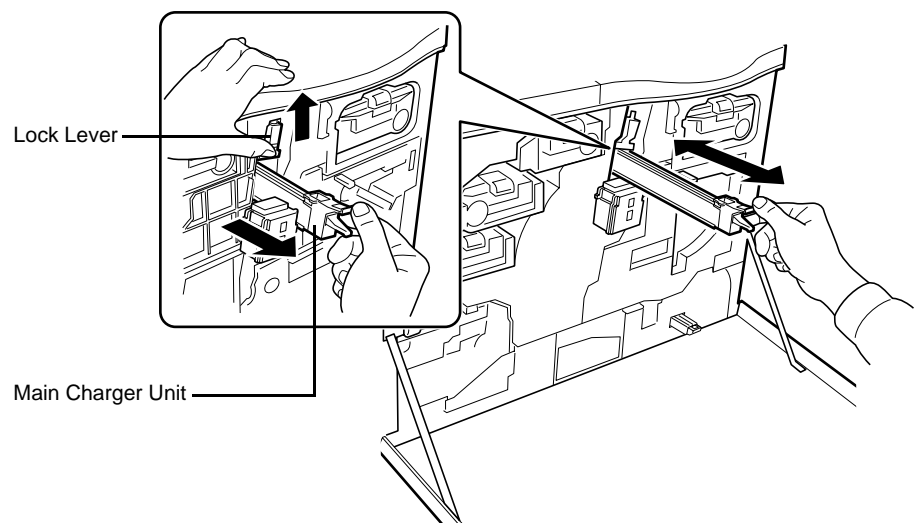

Figure 5-19
- 5 While pushing the main charger unit lock lever upward as shown in *Figure 5-19*, slightly lift the main charger unit, and gently pull the gray-colored main charger handle out and push it back in. Repeat this 2 to 3 times. These movements clean the grid.